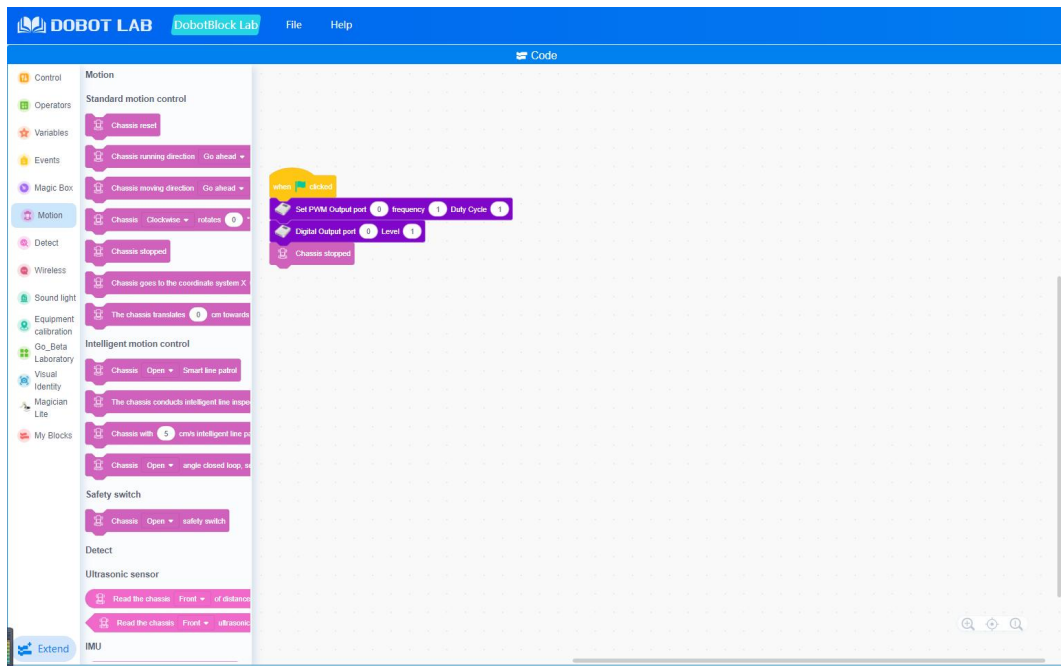

Figure 4.20 Blockly programming
**Step 6** After connecting Magician Go and DobotLab, you can program on block area, as shown in Figure 4.20.